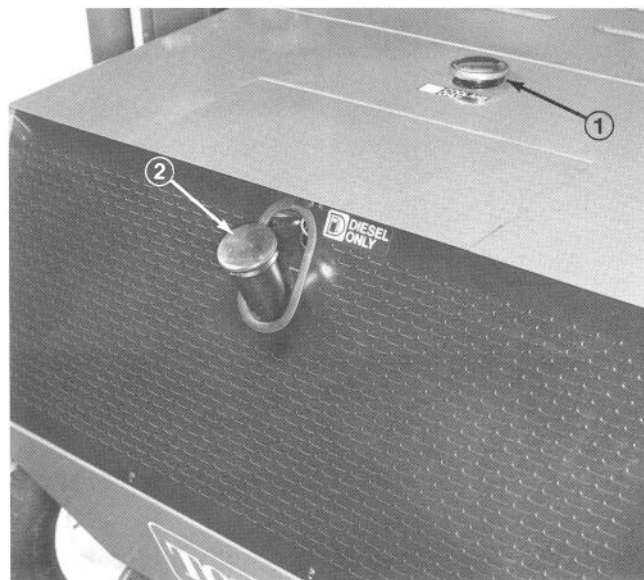

Figure 5
1. Remove radiator cap (Fig. 5). Coolant should be one inch from bottom of fill hole.
1. Remove fuel tank cap (Fig. 5).